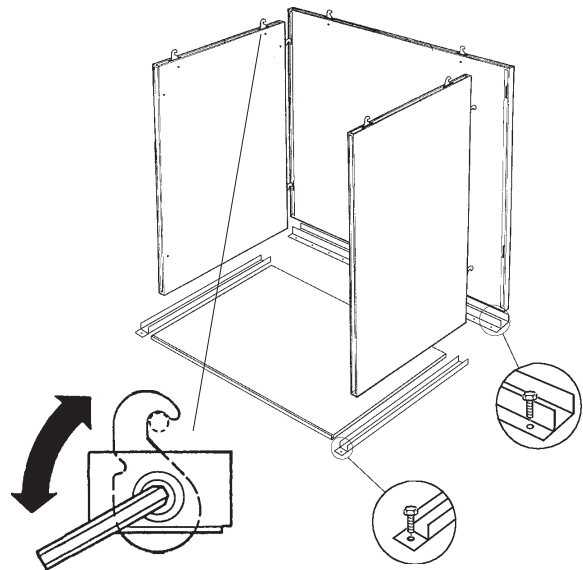

Fig. 1 Eccentric lock
4. Take out the left-hand section, back section, and right-hand section. Turn the eccentric lock for the walls (Fig. 1) anti-clockwise to the stop by means of an 8 mm hex key (in the assembly kit). Apply silicone on all edges between the walls and between the walls/floor.